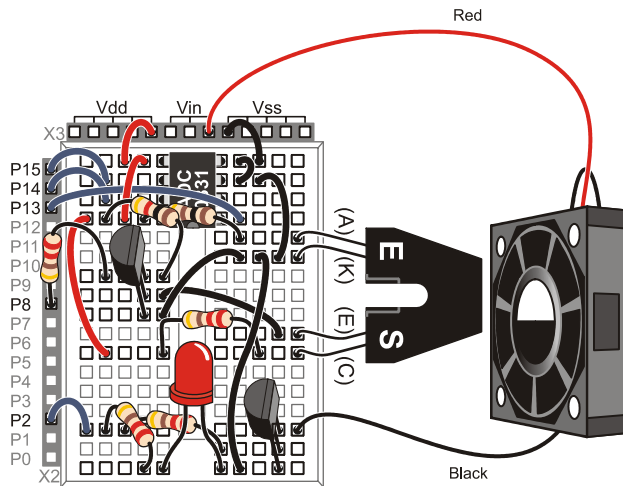

Figure 5-3
- √ Build the circuit shown in Figure 5-2 and Figure 5-3, leaving the ADC circuit on the board for later use. Set aside the BS170 MOSFET transistor for the moment.